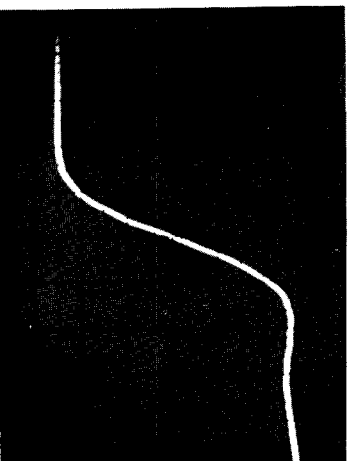

Figure 7. Pulse Period Measurement
12. Adjust time-interval STOP **13** to overlap 50% point of next pulse leading edge (for pulse period measurements) or to overlap 50% point of pulse trailing edge (for pulse width measurements) at center vertical line. (See figure 7 or 8 as applicable.)